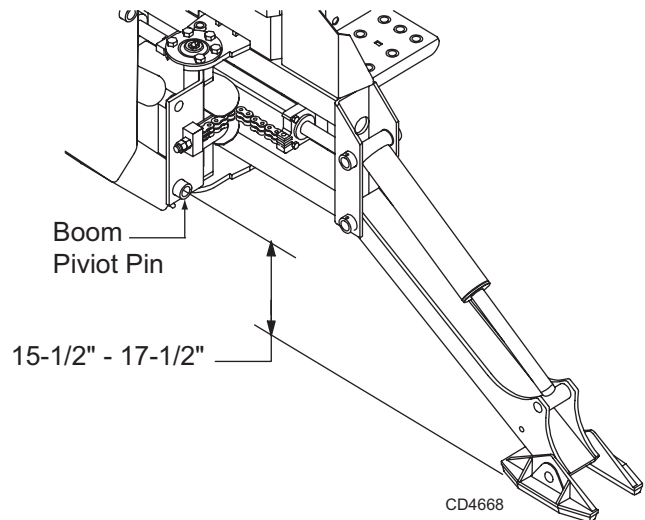

Figure 6. Ground Clearance
4. Raise backhoe with stabilizer controls and level backhoe from side to side and front to back. Set ground clearance between 15-1/2 to 17-1/2 inches. Measure from the center of boom pivot pin to the ground. See Figure 6.